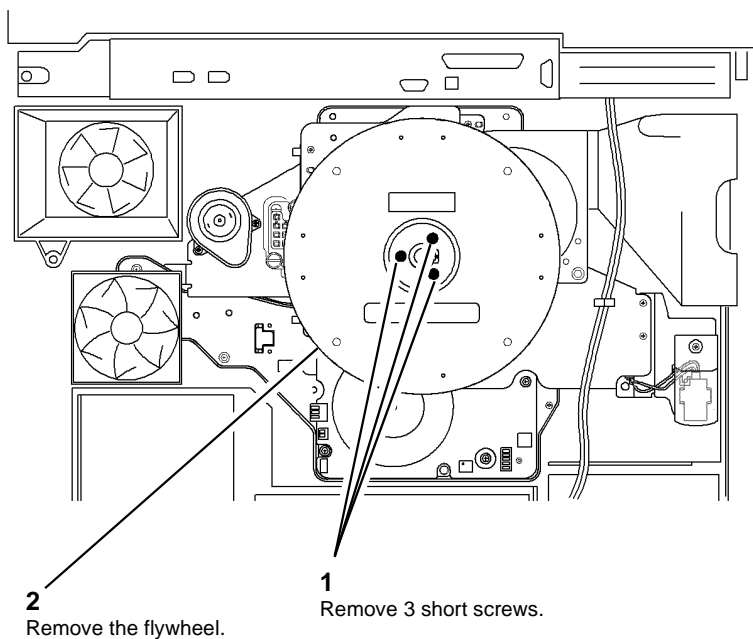

Figure 1 Remove the flywheel
2. Remove the flywheel (3 short screws), Figure 1.